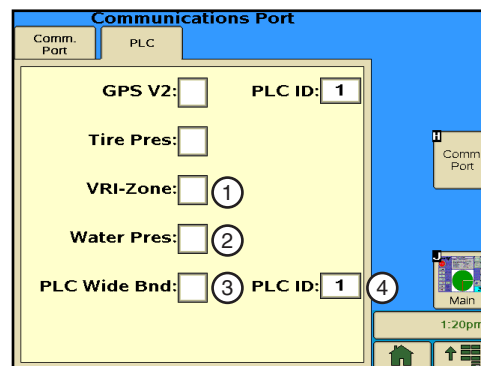

Figure 45-1 1. VRI Zone Checkbox
3. Push the **PLC** tab to display the PLC screen. Refer to Figure 45-1.
3. Push **the** PLC tab to display the PLC screen. Refer to Figure 45-1.
1. Push **Setup, Comm. Port, PLC** to display the PLC screen. Refer to Figure 45-1.